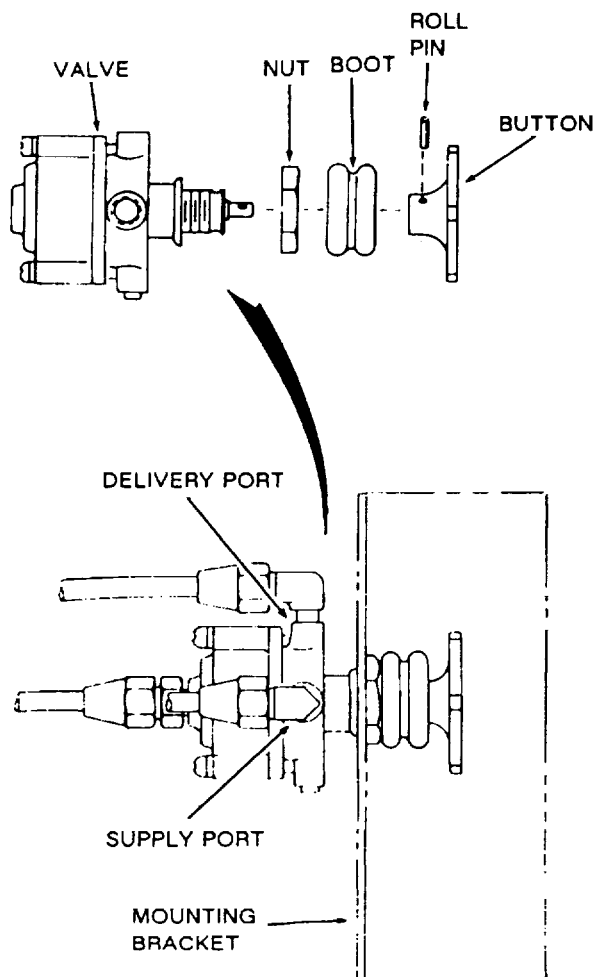

Figure 4-56. Parking Brake Control Valve Installation.
- (1) Apply antiseize tape (item 28, Appendix to male threads and install new nipple (6) in side port valve. Turn valve and nipple into elbow (7) on air reservoir.
- (2) Install air line (1) and adapter (2) on vane
- (3) Test and adjust valve (step a)
- (4) Remove blocking from semitrailer wheels.
**4-49. Parking Brake Control Valve, Fig. 4-56.**
- (1) The valve can only be used when all air has been exhausted from the rear (primary) reservoir.
- (2) In the OUT position, the valve is closed, allowing springs in the fail-safe chambers to apply braking pressure.
- (3) In the IN position, air is delivered from the front (secondary) reservoir to the fail-safe chamber, compressing the spring and releasing the brakes.
(4) When the trailer is connected to a towing vehicle, air from the emergency line is applied to the pilot port of the valve, maintaining the OUT position. However, air from the emergency line is also directly applied to the fail-safe chamber, compressing the spring during normal towing operation.